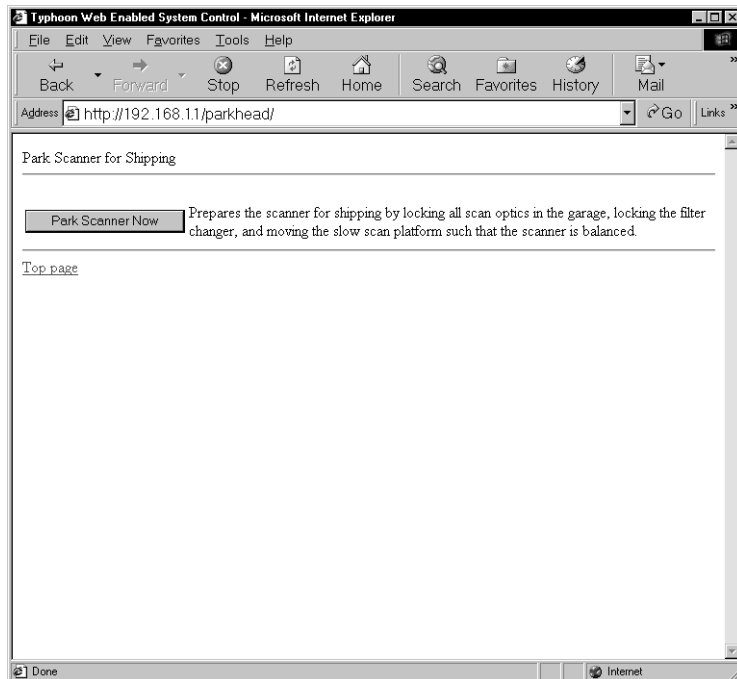

Fig 13-7. The Park Scanner for Shipping window.
- 2 In the Typhoon Direct Instrument Access window, click **Park Scanner for Shipping**. The Park Scanner for Shipping window appears (fig 13-7).